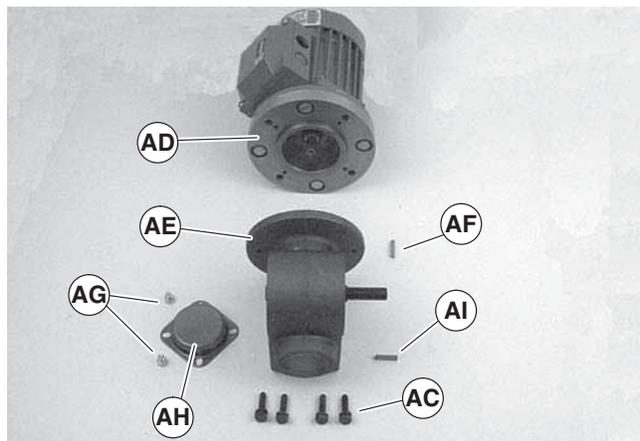

Figure 20
- Remove four screws (Figure 20, item AC). Detach motor (AD) from gear reducer (AE). Retain motor output shaft key (AF).
- With key (Figure 20, item AF) in keyway, slide motor (AD) and gear reducer (AE) together. Install screws (AC) and tighten.